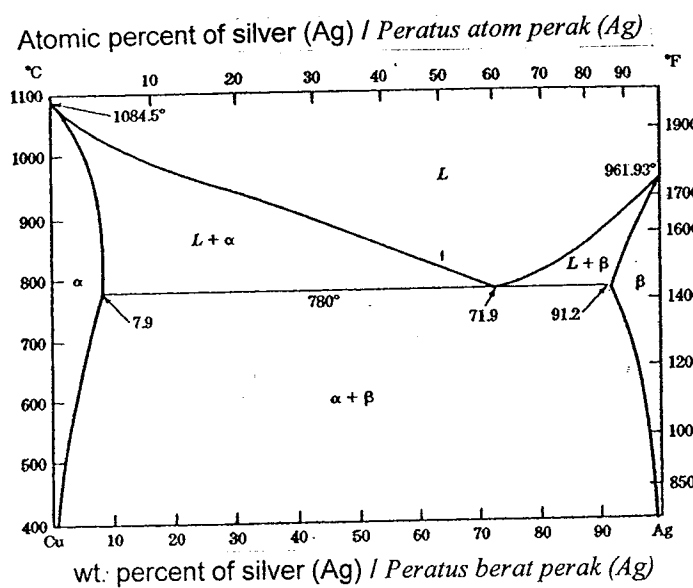

Figure 4 - Phase diagram of copper (Cu) – Silver (Ag)
15. Consider the binary eutectic copper (Cu) – silver (Ag) phase diagram in Figure 4. Calculate the amount of L and α phases of 75 wt% Cu-25 wt% Ag at the temperature of 800°C.